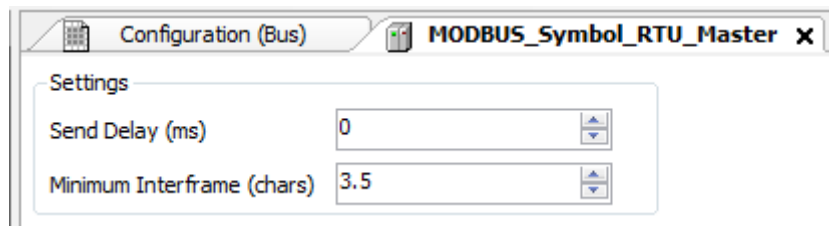

Figure 53: MODBUS RTU Master Configuration Screen
- Configure the general parameters of the MODBUS Master protocol, like: transmission delay times and minimum inter-frame as in Figure 53.